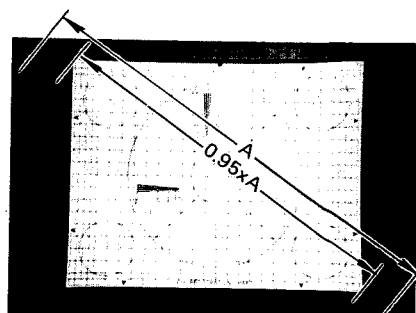

Fig. 5-4-6
- o Aim the camera at the registration chart and adjust the zoom lens so that the a diagonal of chart is 95% of pick-up tube diameter. (Fig. 5-4-6)